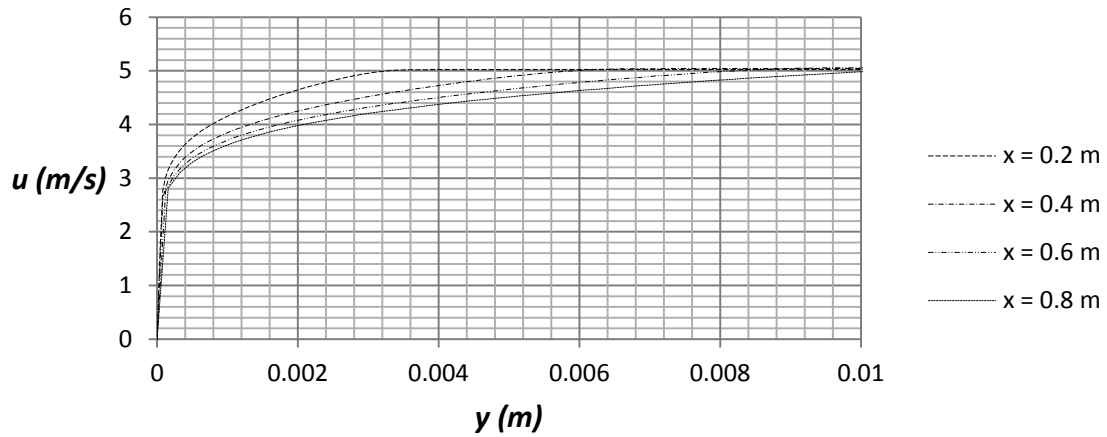

Figure 2.30a) Flow Simulation comparison between turbulent boundary layers at  $Re_x = 10^6 - 4.04 \cdot 10^6$
32. Place the file “**graph 2.30a)**” on the desktop. Repeat step 24 and choose the sketch  $x = 0.2, 0.4, 0.6, 0.8$  m and check the box for **Velocity (X)**. Rename the xy-plot to **Turbulent Velocity Boundary Layer**. An Excel file will open with a graph of the streamwise velocity component versus the wall normal coordinate, see figure 2.30a). We see that the boundary layer thickness is much higher than the corresponding laminar flow case. This is related to higher Reynolds number at the same streamwise positions as in the laminar case. The higher Reynolds numbers are due to the selection of water as the fluid instead of air that has a much higher value of kinematic viscosity than water.
As an example, the turbulent boundary layer thickness from figure 2.30a) is 3.55 mm at  $x = 0.2$  m which can be compared with a value of 4.44 mm from equation (4), see table 2.5.
- 2.6 Determine the displacement thickness, momentum thickness and shape factor for the turbulent boundary layers in figure 2.30a), and determine the percent differences as compared with empirical data.